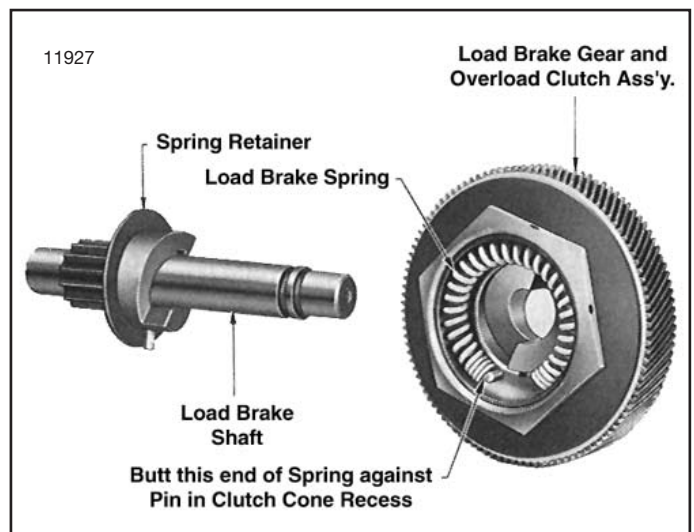

Figure 7-24. Load Brake Gear and Overload Clutch Assembly Removed from Load Brake Shaft Showing Brake Spring Installed in Clutch Cone
(3) Remove load brake gear and overload clutch assembly from output pinion shaft. Pull the spring from its recess in clutch cone (fig. 7-24) but do not further disassemble gear and clutch assembly. See "NOTE" below.
**NOTE:** Disassembly of the load brake gear and overload clutch assembly (fig. 7-24) is not recommended. Clutch pressure is preset by the factory at assembly to provide the correct torque to allow the clutch to refuse loads within a specified range (150% of rated load to 200% rated load). It is suggested whenever there is a need to repair or readjust the gear and clutch assembly that it be sent to an authorized **Budgit** Hoist Repair Station where adequate tools, fixtures and appropriate test equipment is available.
(1) Before assembly, all parts should be cleaned and inspected to determine their serviceability. Replace parts that are worn or damaged.
(2) Reassemble load brake parts following a reverse procedure of the disassembly steps listed above, observing the assembly steps (3) through (6) below.
(3) Before installing spring in its recess in center of clutch cone (fig. 7-24) apply a good grade of ball bearing grease to inside of recess. Spring must be positioned exactly as illustrated, abutted against pin.